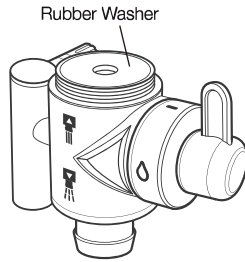

Figure 3.8 – Rubber Washer Location
8. Make sure the rubber washer is in place inside the swivel collar of the diverter valve (see Figure 3.8).